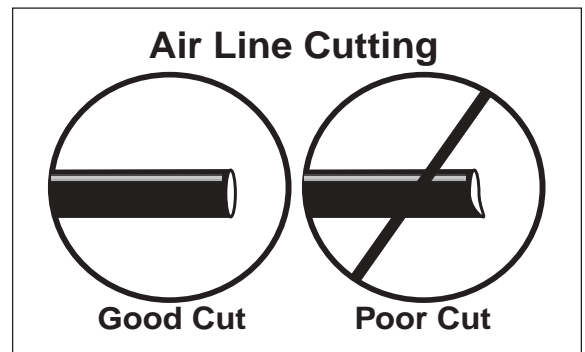

Figure 7
4. Use a standard tube cutter or razor blade to cut the air line into two equal lengths. A clean square cut will ensure against leaks. Drill a 5/16" hole for the inflation valve and mount as illustrated. The outer rubber washer is used as a weather seal (Fig. 7).